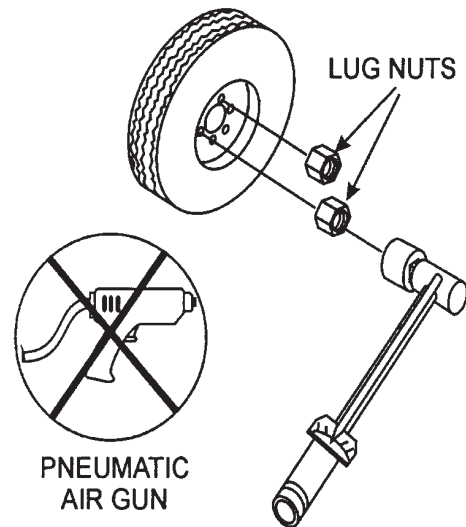

Figure 62. Wheel Lug Nuts Tightening Sequence
2. Torque all lug nuts in sequence (see Figure 62). **DO NOT** torque the wheel lug nuts all the way down. Tighten each lug nut in 3 separate passes as defined by Table 18.